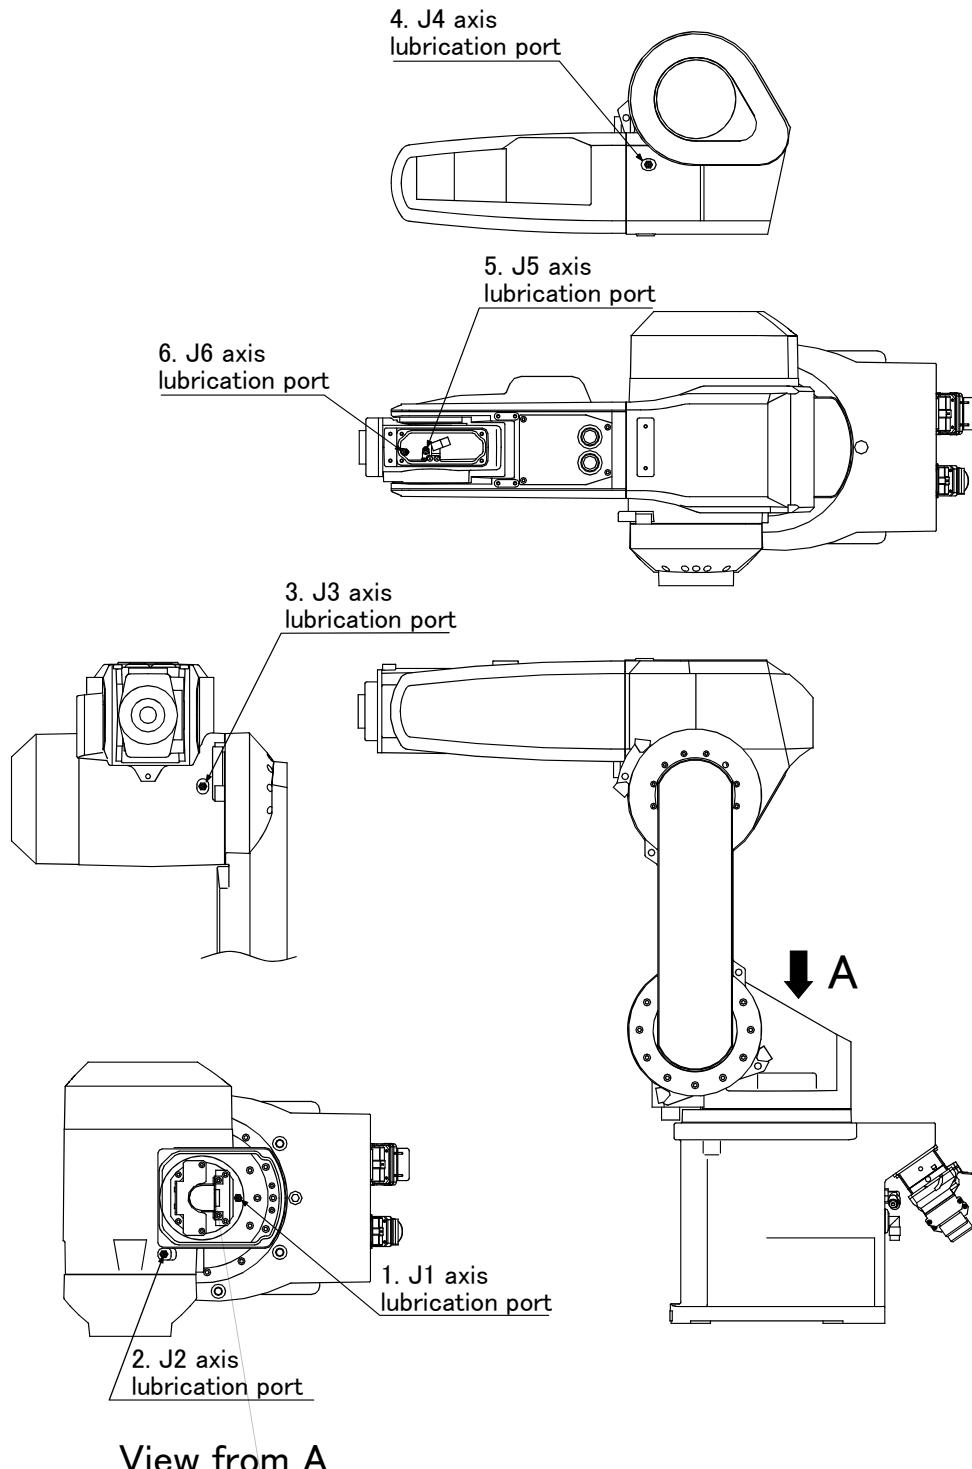

Fig.1-6 : Lubrication positions
The lubrication specifications for each place are shown in Fig. 1-6.
- The numbers in the correspond to the supply positions in Fig. 1-6.
(2) Lubrication method
- Set the robot to the posture shown in Fig. 1-6.